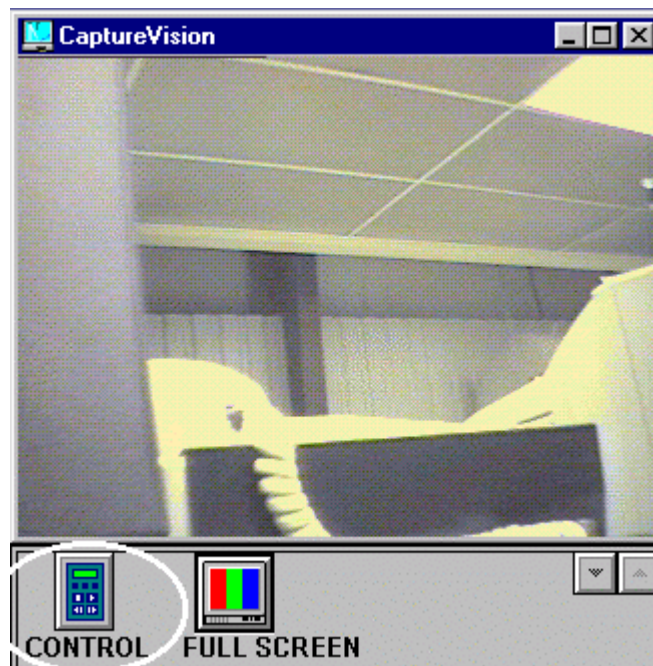

Figure 32 CaptureVision Window
- Click the **CONTROL** button to display the **Control Panel** as shown in Figure 32.